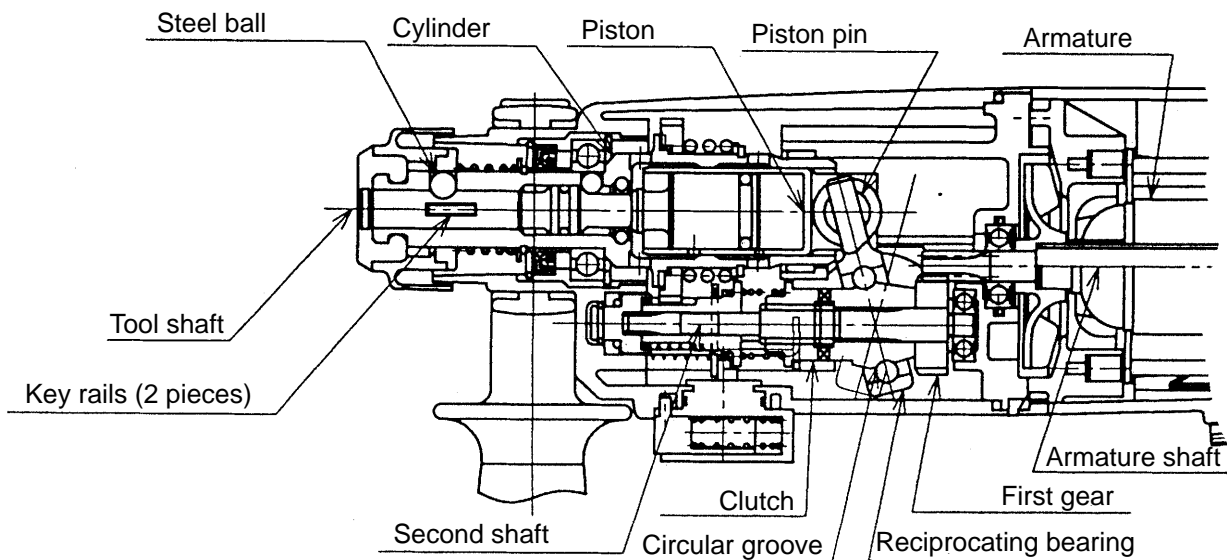

Fig. 3
In conventional hammer drills, a piston is caused to reciprocate by a connecting rod and crankshaft, and the crankshaft and the cylinder axes are at right angles to each other. Accordingly, the armature shaft and the cylinder axes are also at right angles to each other. In the Model DH 24PE (S), through adoption of a spiral drive system (a mechanism using a reciprocating bearing), a more compact design has been achieved by arranging the armature shaft in parallel with the cylinder axis. Referring to Fig. 3, the armature's rotation is transmitted to the second shaft via the first gear. The second shaft's rotation is then transmitted through a spline to the clutch, which engages with a reciprocating bearing and causes it to rotate. However, as illustrated, circular grooves on the inner race of the reciprocating bearing are positioned on an angle of inclination with relation to the second shaft. The rotation of the inner race and the shaft causes the angle of inclination to change regularly forward and back with relation to the second shaft, and produces a rocking motion in the outer race of the reciprocating bearing. Finally, a rod extending from the outer race of the reciprocating bearing is connected to the piston by a piston pin, and causes the reciprocating motion of the piston.